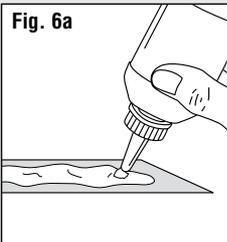

Fig. 6a
- Apply white glue to backside of paper (Fig. 6a).